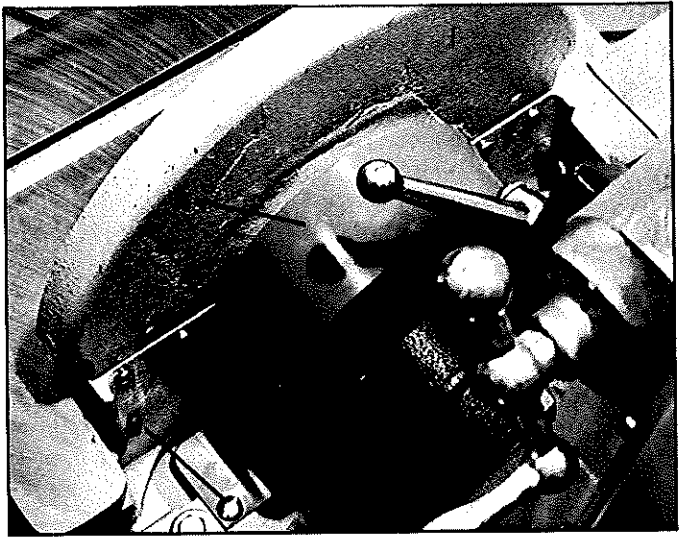
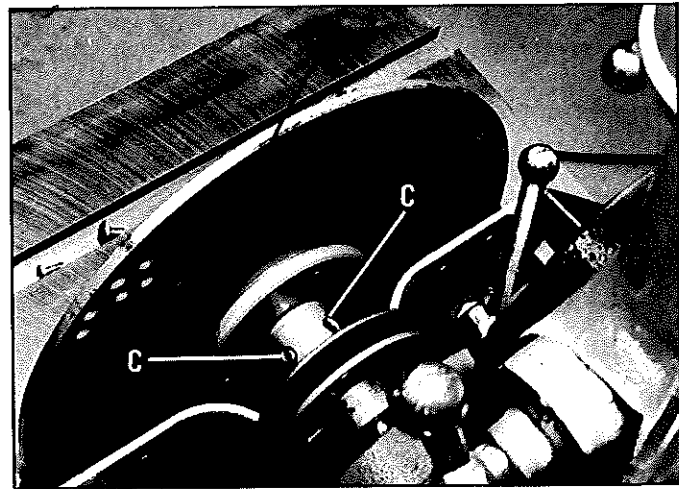

Fig. 20
Fig. 21
The table is set at the factory so that the edge of the table is approximately $3/32''$ away from the abrasive disc. This is done to provide enough clearance for the table when it is tilted to 45 degrees. If it is ever necessary to move the table away from or closer to the disc, loosen the four screws that hold the table to the trunnions and move the table away from or closer to the disc. If you cannot obtain enough movement of the table with this method, remove the belt guard (A) by removing the two screws, one of which is shown at (B) Fig. 20. Then loosen the two screws (C) Fig. 21, and move the disc (D) in or out on the shaft. Then tighten the two screws (C) Fig. 21. NOTE: After this adjustment is made make sure the miter gage slot is parallel with the disc by following instructions under ADJUSTING MITER GAGE SLOTS PARALLEL WITH BELT AND DISC.